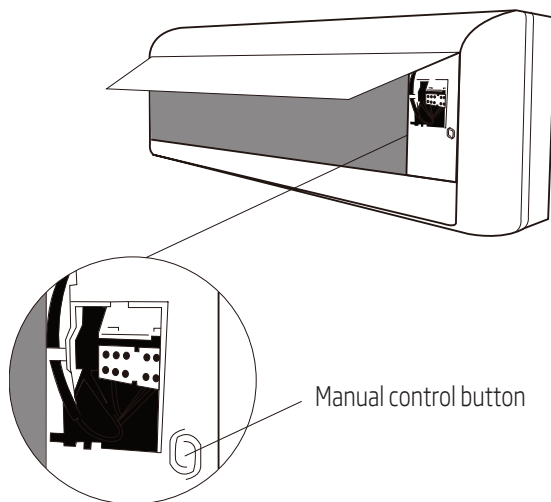

Fig. 10.1
2. The MANUAL CONTROL button is located on the right-hand side of the unit. Press it 2 times to select the COOL function. See Fig. 10.1